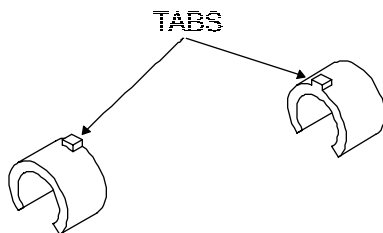

Figure 5-19. Carrier Bushing Installation.
5. Orient the new Bushing as shown in Figure 5-19 so that the metal tab on top of the Bushing goes into the Carrier Assembly first.